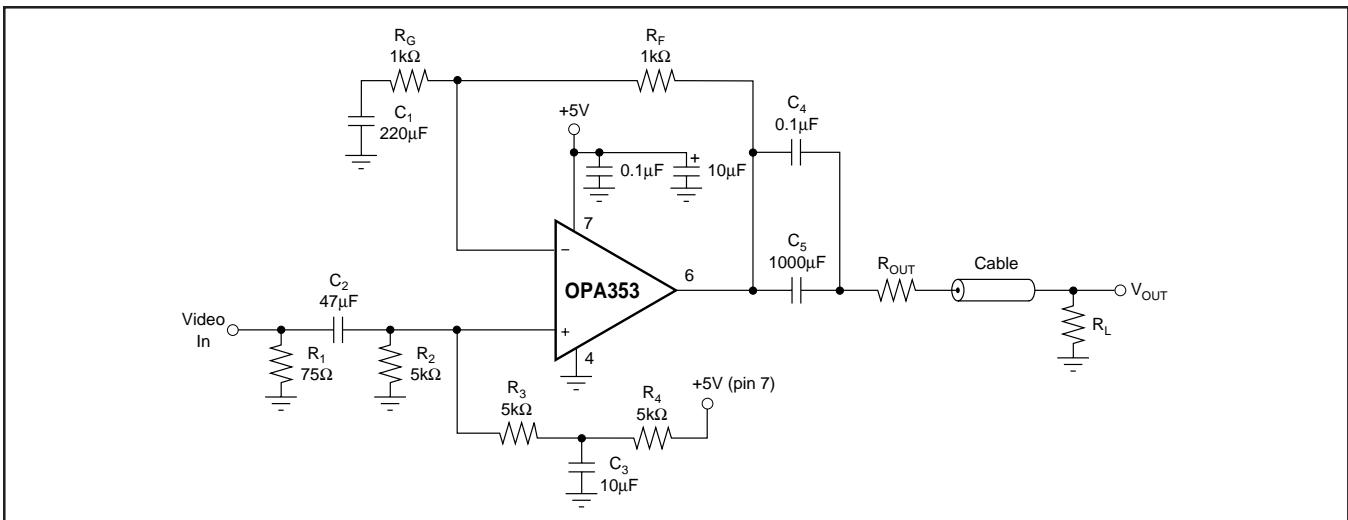

FIGURE 6. Single-Supply Video Line Driver.
NOTES: (1) $V_S = +5V$. (2) $V_{OUT} = 0.25V$ to $2.75V$. (3) NTSC signal generator used. See Figure 6 for test circuit. (4) Output voltage swings are measured between the output and power supply rails. (5) See typical performance curve, "Output Voltage Swing vs Output Swing."
Figure 6 shows a circuit for a single supply, $G = 2$ composite video line driver. The synchronized outputs of a composite video line driver extend below ground. As shown, the input to the op amp should be ac-coupled and shifted positively to provide adequate signal swing to account for these negative signals in a single-supply configuration.
The input is terminated with a 75Ω resistor and ac-coupled with a $47\mu\text{F}$ capacitor to a voltage divider that provides the dc bias point to the input. In Figure 6, this point is approximately $(V_-) + 1.7\text{V}$. Setting the optimal bias point requires some understanding of the nature of composite video signals. For best performance, one should be careful to avoid the distortion caused by the transition region of the OPA353's complementary input stage. Refer to the discussion of rail-to-rail input.